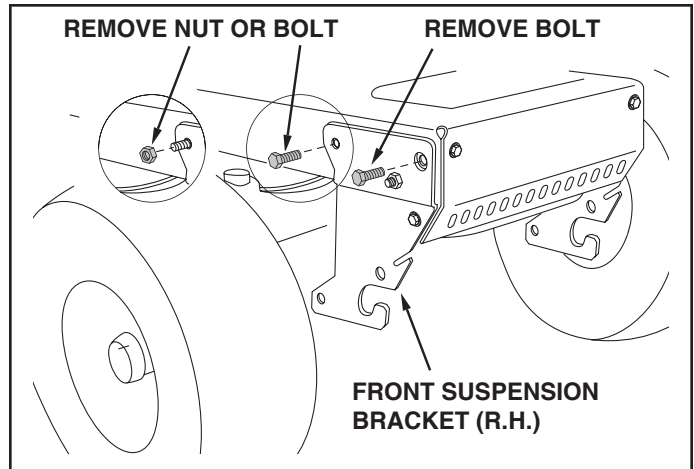

FIGURE 1
- the nut from the carriage bolt at the top rear corner of the bracket, leaving the carriage bolt in the tractor frame. See figure 1.